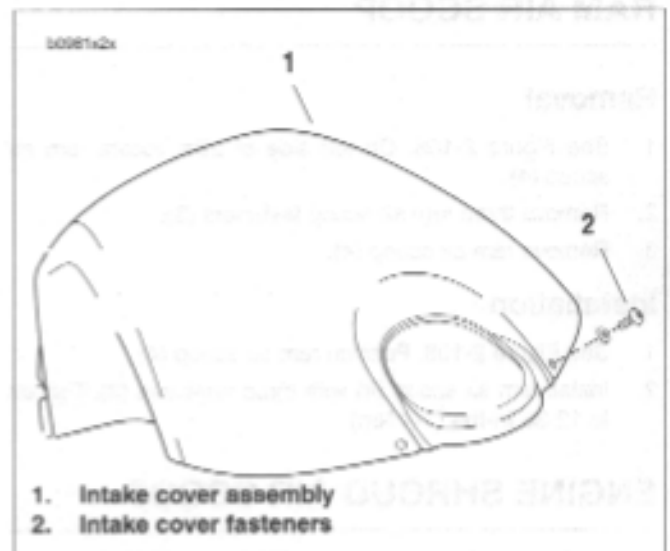

Figure 2-107. Intake Cover Assembly
2. See Figure 2-107. Remove fasteners and nylon washers (2).
3. Remove intake cover assembly (1).
2. See Figure 2-107. Secure intake cover assembly (1) with fasteners and nylon washers (2). Tighten to 12-36 in-lbs (1-4 Nm).